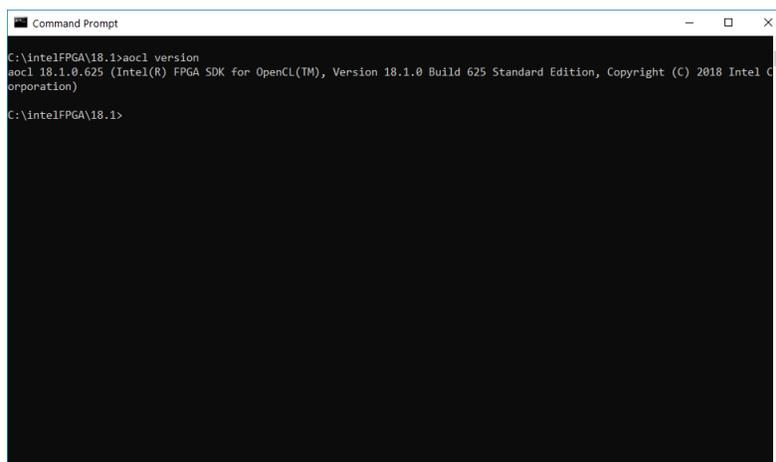

Figure 6. Verifying Intel OpenCL SDK install
9. Verify the installation and environment variables by checking the output of the command `aocl version`. The command should produce a version number output similar to Figure 6.